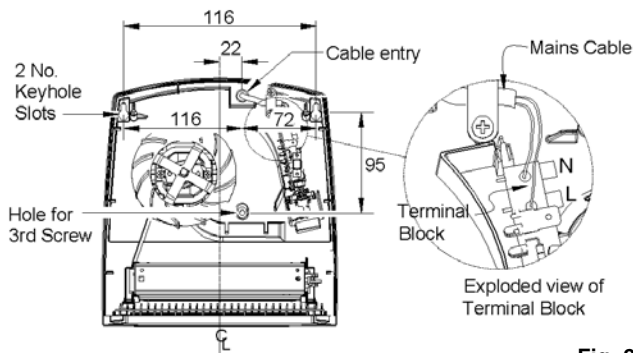

Fig. 2
The appliance is secured to the wall with three screws, two through keyhole slots and one through a centrally positioned lower hole to hold the appliance firmly in position (see Fig. 2).
7. Make electrical connections to the terminal block ensuring that the live connection is made to the terminal marked 'L' and the neutral connection to the terminal marked 'N' (see Fig. 2 exploded view).